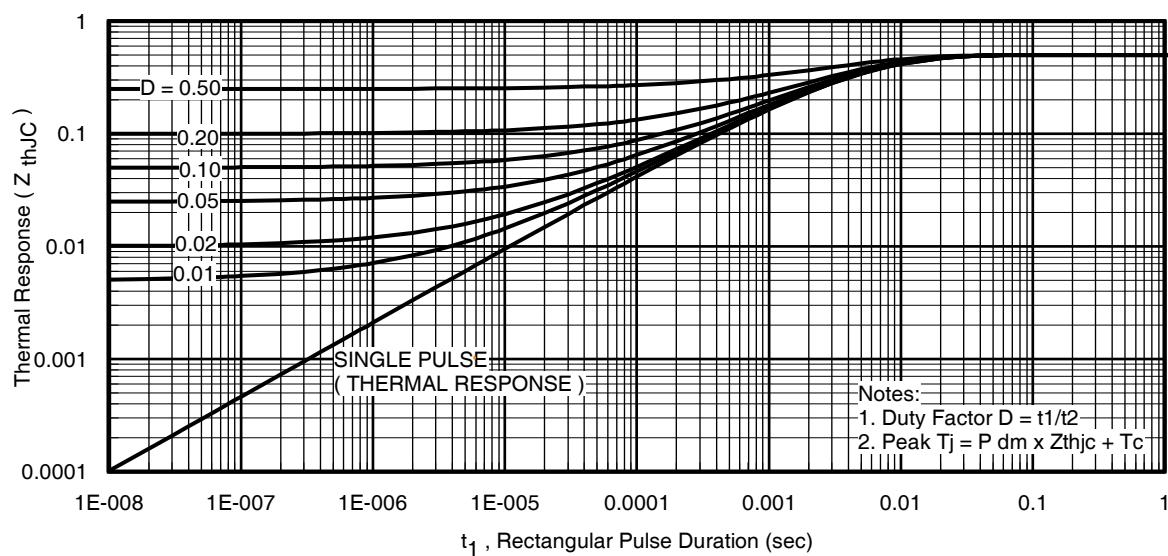
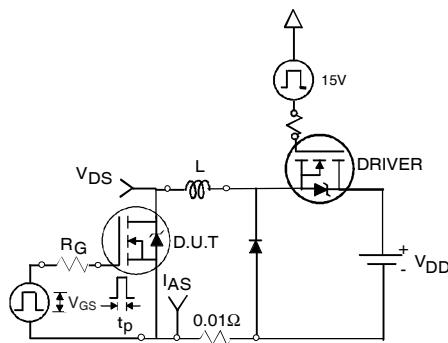

Fig 11. Maximum Effective Transient Thermal Impedance, Junction-to-Case
Fig 12a. Unclamped Inductive Test Circuit
- ① Repetitive rating; pulse width limited by max. junction temperature. (See fig. 11).
- ② Limited by $T_{J\text{max}}$, starting $T_J = 25^\circ\text{C}$, $L=0.24\text{mH}$, $R_G = 25\Omega$, $I_{AS} = 75\text{A}$, $V_{GS} = 10V$. Part not recommended for use above this value.
- ③ $I_{SD} \leq 75\text{A}$, $dI/dt \leq 220\text{A}/\mu\text{s}$, $V_{DD} \leq V_{(\text{BR})\text{DSS}}$, $T_J \leq 175^\circ\text{C}$.
- ④ Pulse width $\leq 1.0\text{ms}$; duty cycle $\leq 2\%$.
- ⑤ $C_{oss \text{ eff.}}$ is a fixed capacitance that gives the same charging time as C_{oss} while V_{DS} is rising from 0 to 80% V_{DSS} .
- ⑥ Limited by $T_{J\text{max}}$, see Fig.12a, 12b, 15, 16 for typical repetitive avalanche performance.
- ⑦ This value determined from sample failure population. 100% tested to this value in production.
- ⑧ This is applied to D²Pak, when mounted on 1" square PCB (FR-4 or G-10 Material). For recommended footprint and soldering techniques refer to application note #AN-994.
- ⑨ Max $R_{\text{DS(on)}}$ for D²Pak and TO-262 (SMD) devices.
- ⑩ TO-220 device will have an R_{th} value of $0.45^\circ\text{C}/\text{W}$.
3. Equation below based on circuit and waveforms shown in Figures 12a, 12b.
- Z_{thJC}(D, t_{av}) = Transient thermal resistance, see figure 11